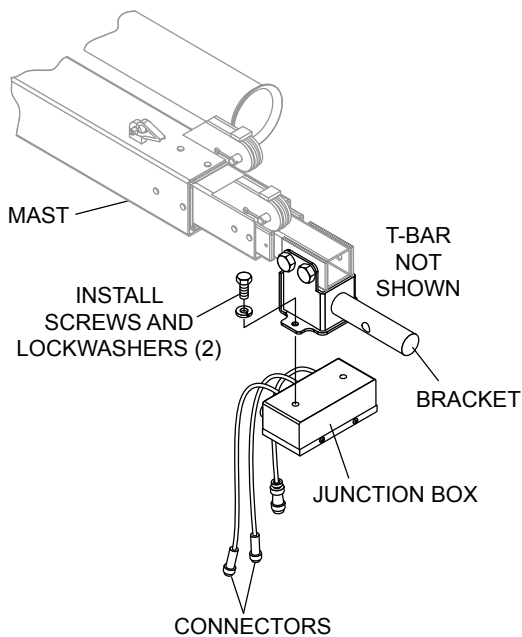

Figure 8. Junction Box Installation
3. Attach junction box to the bracket with the bolts and washers provided. See Figure 8.